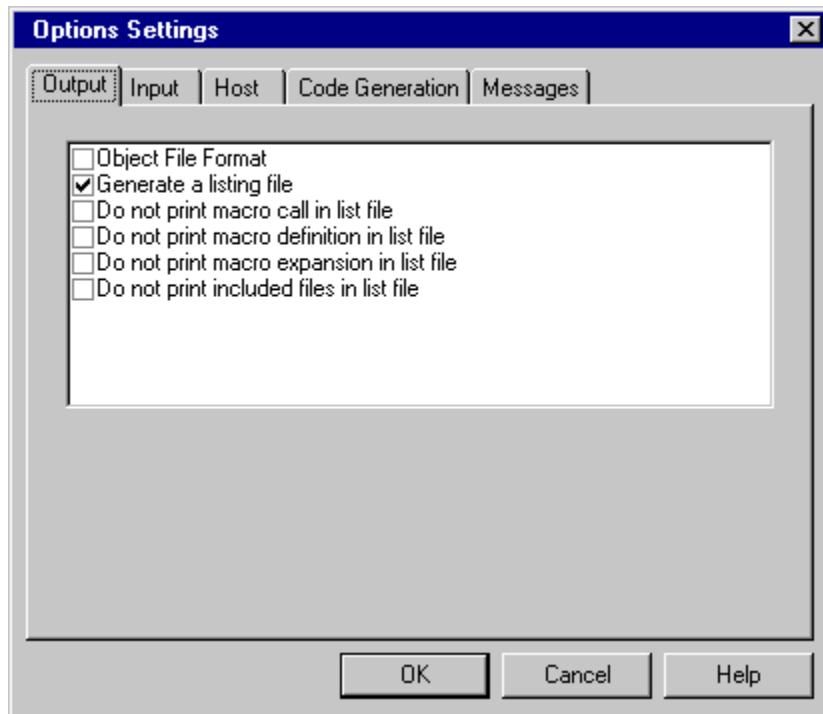

Figure 1-6. Options Settings Dialog Box
2. Select the menu entry **Assembler | Options** to generate an *ELF/DWARF 2.0* object file. The **Options Settings** dialog is displayed as shown in Figure 1-6.